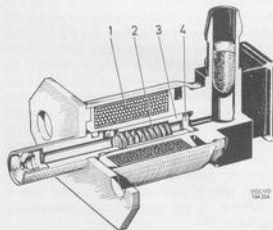

Fig. 2-160. Cold start valve
When the magnetic winding (1, Fig. 2-160) is not in circuit, the packing (4) presses against the inlet of the armature (3), which in its turn is actuated by the return spring (2). This keeps the cold start valve closed. When the magnetic winding is fed from the thermal timer, the armature is drawn down and fuel is forced past the packing, through the cold start valve and into the inlet duct.